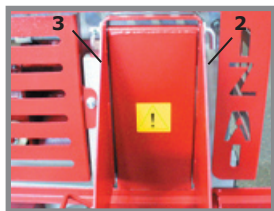

Fig. 3
Finally secure the two pins using a cotter (3) as shown on figure 3.